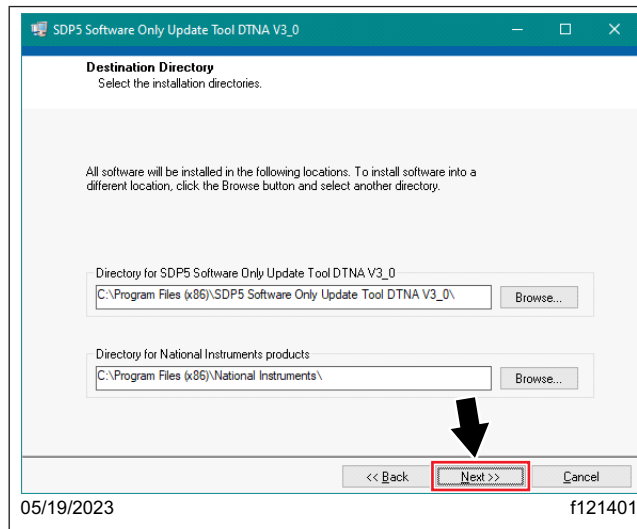

Fig. 8, Selecting Next
- The software installation window pops-up. Select 'Next.' See Fig. 8.